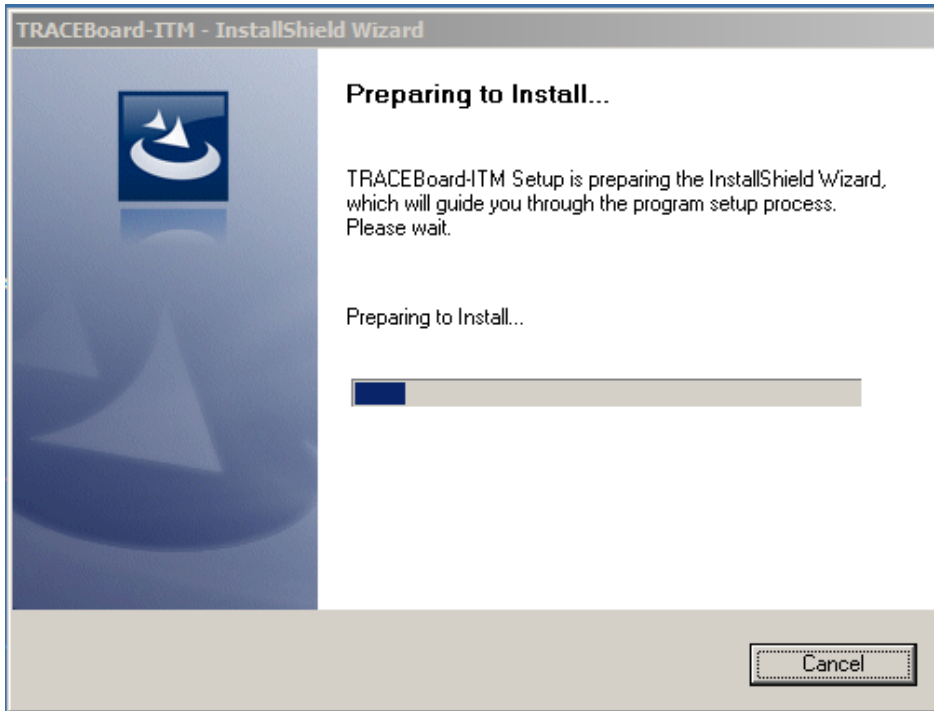

Fig 2.1.2
3. Installation window show is preparing to install, just wait a while, see fig2.1.2